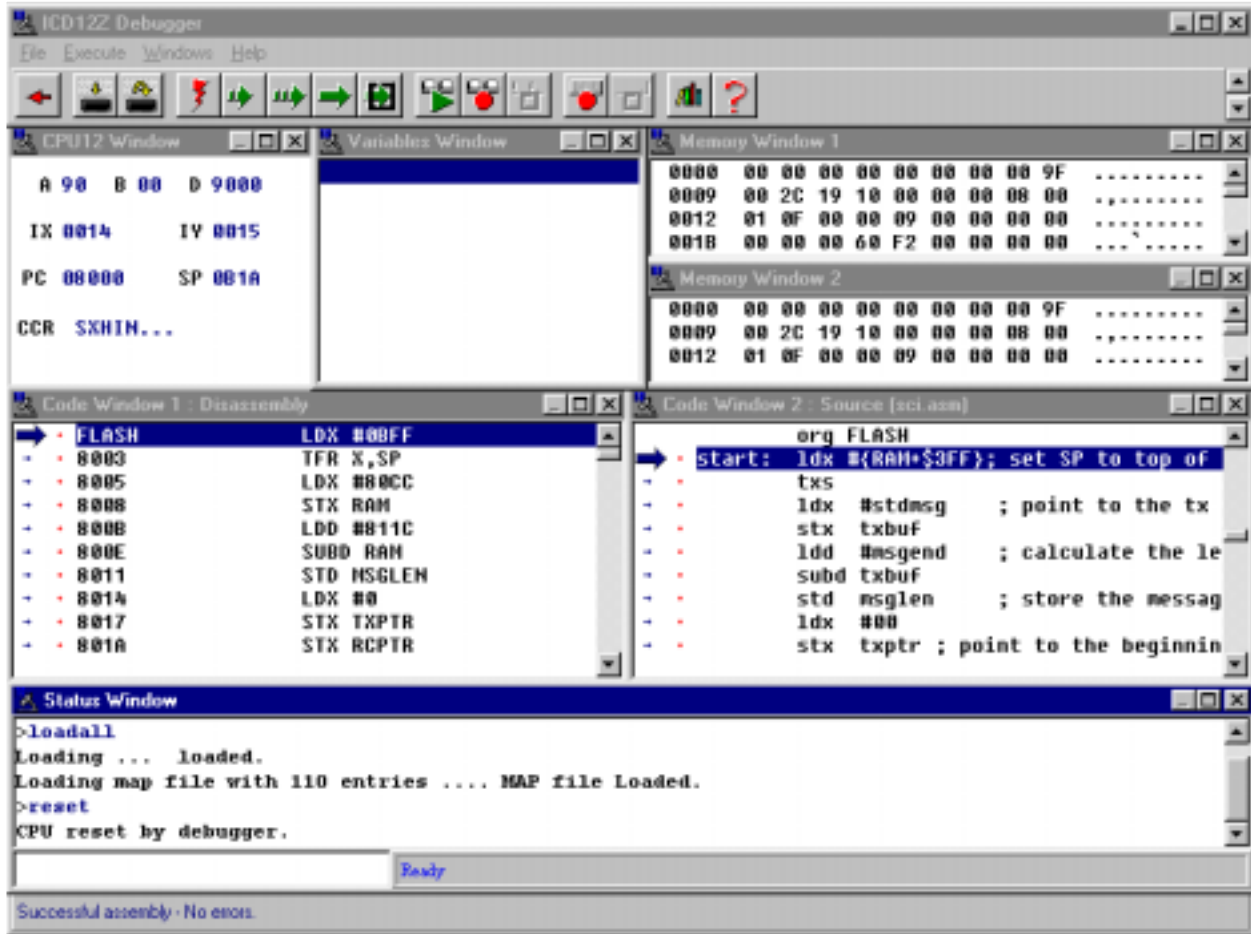

Figure 8. P&E's Debugger Window
8. Launch the debugger. If the correction assistant window opens, select the correct parallel port being used. Defaults should work for the other options in this window. See **Figure 8**.